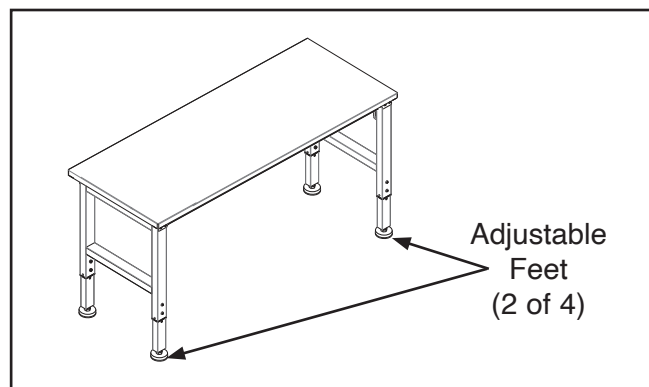

Figure 7. Location of adjustable feet.
2. Stand workbench upright and verify all adjustable feet are flush with floor (see **Figure 7**).